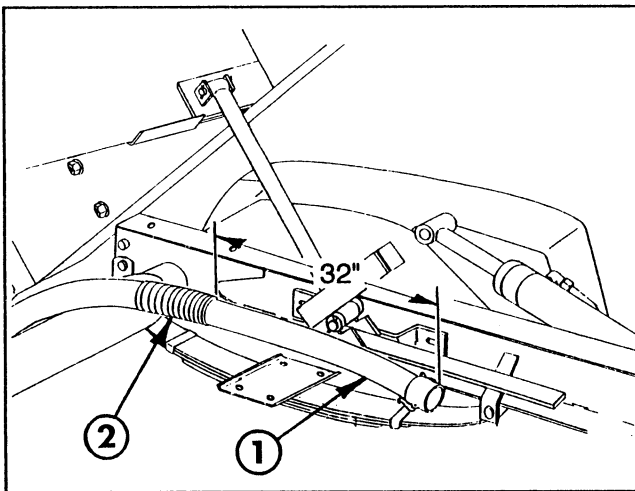

FIG. 17
67. Install the protective hose loom on the 100" pressure hose as shown in FIG. 17. Secure the loom to the hose by tightening a tie strap around each end of the loom so that the loom does not shift front to rear.